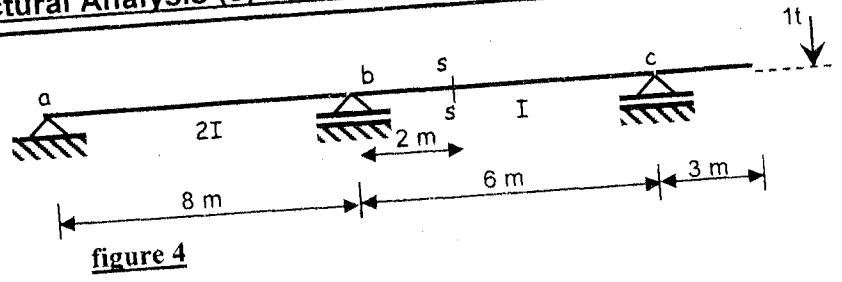

figure 4
A) Figure 4 shows the layout of panelled beams covering an area of $12.0 \times 21.20\text{m}$. The slab is subjected to L.L. = 5kN/m^2 and cover = 2.5kN/m^2 . The slab thickness is 100mm . The internal paneled beams have 250mm width and 700mm depth, where the external marginal beams have 300mm width and 1000mm depth. It is required to
For the beam shown in figure 4, construct the influence lines of the reactions at supports a, b and c. Also construct the influence lines of the straining actions (N, Q, and M) at the sections s-s